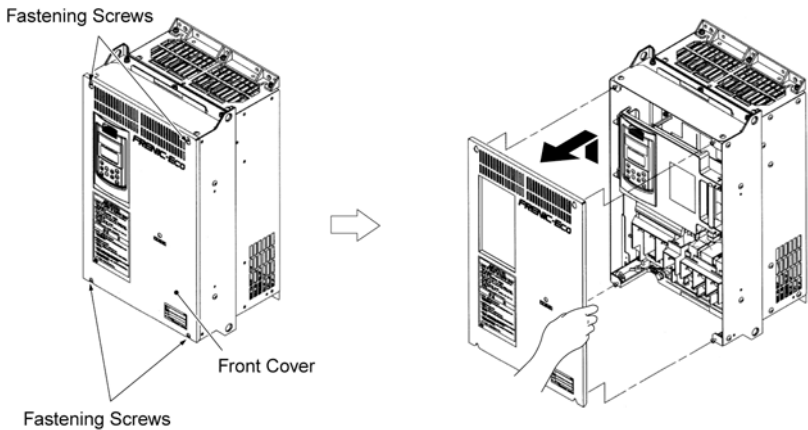

Figure 2.8 Removing the Front Cover (FRN040F1S-2U)*
(2) For inverters with a capacity of 40HP for 208V, 50HP for 460V to 125HP for 208V, 200HP for 460V
- ① To remove the front cover, loosen the four fastening screws on it, hold it with both hands, and slide it upward. (Refer to Figure 2.8.)
- ② Put the front cover back in reverse order of the ①. Make sure to properly match the position of the screw holes on both of the front cover and inverter case.